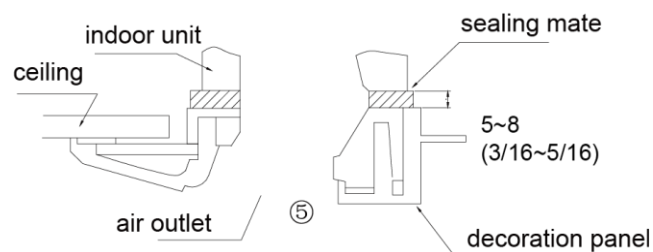

Fig. 4.4.5
- (2) Temporarily hang the panel to body (there are four hangers on each corner of the panel, hang the hangers to corresponding hooks on the body), as shown in fig. 4.4.5.
- (3) Detach the air inlet grille from panel, make a wiring connection of signal receiver. Notice that the connection wire not stuck in the middle of body and panel, or may cause air leakage and lead to condensation water drop.
- (4) Tighten 4 screws at each corner of panel respectively, fix the panel on the body firmly.
- (5) After tightening screws, reinstall the air inlet grille.